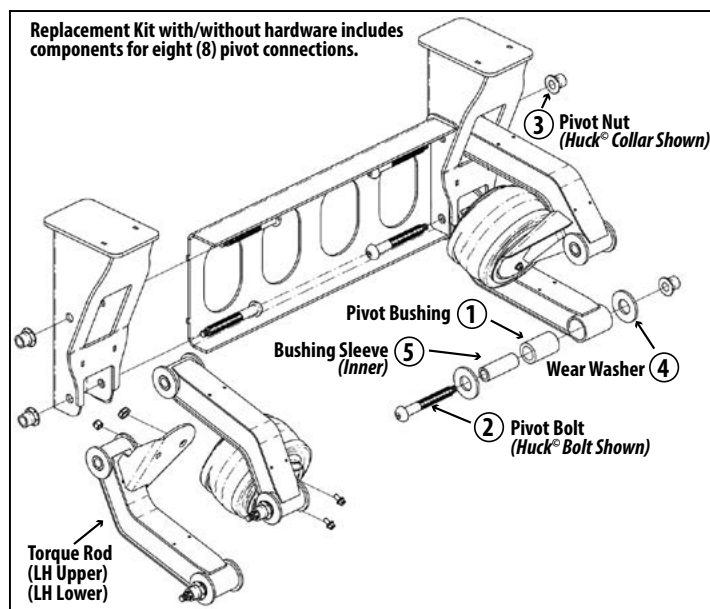

Figure 19. Bushing Replacement Kits include wear washers and traditional hardware components for eight pivot connections.
2. The number of wear washers on each side of the Torque Rod Assembly will vary according to preset frame-width (Figure 19).